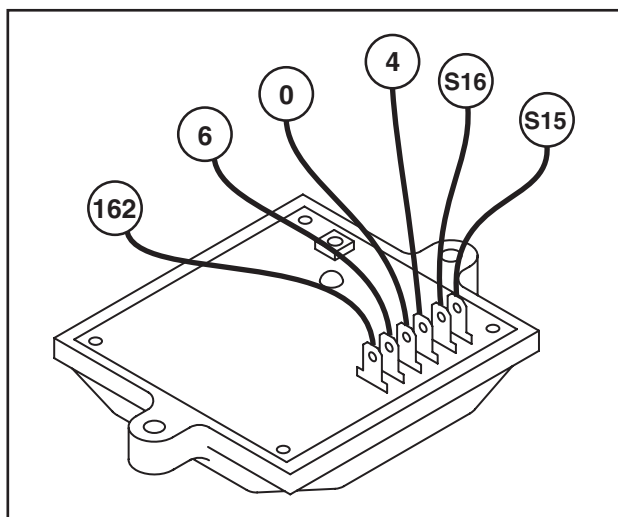

Figure 3. Voltage Regulator
1. Disconnect Wire 4 from the voltage regulator, third terminal from the top. See Figure 3.
7. Disconnect Wire S15 from the voltage regulator and connect one meter test lead to that wire. Disconnect Wire S16 from the voltage regulator and connect the other meter test lead to that wire (both wires are located at the top two terminals of the voltage regulator, see Figure 3).
1. Locate Wire 4 that is routed from the circuit board and connects to the voltage regulator terminal, third from the top (see Figure 3). Disconnect that wire from the voltage regulator terminal.